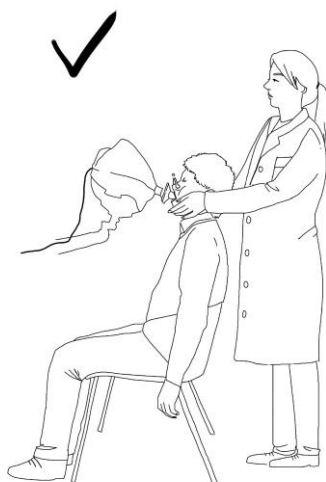

Figure 52 - Correct position for FOT measurement
- The patient should be sitting, back straight and neck slightly flexed upward. Adjust the height of the device so that correct patient position is assured. (Figure 52)